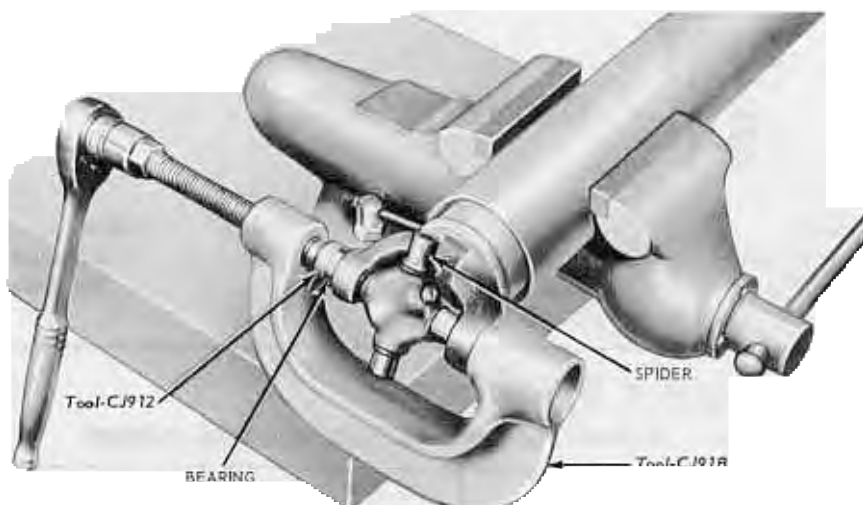

FIG. 3—Installing Universal Joint Bearing
2. Position the spider in the rear yoke and press the bearing $\frac{1}{4}$ inch below the surface (Fig. 3).